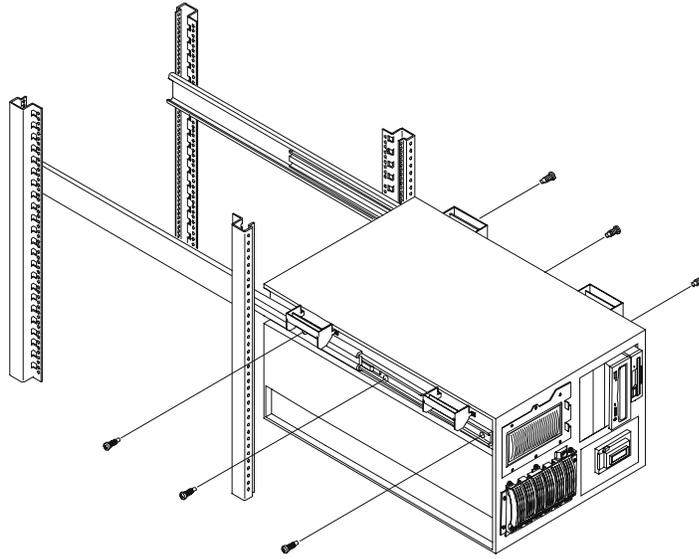

Figure 8-11. Securing the HP NetServer to the Slides
7. Rest the HP NetServer handles on the slides and then line up the mounting holes in the HP NetServer chassis with the screw holes in the slides (see Figure 8-11).